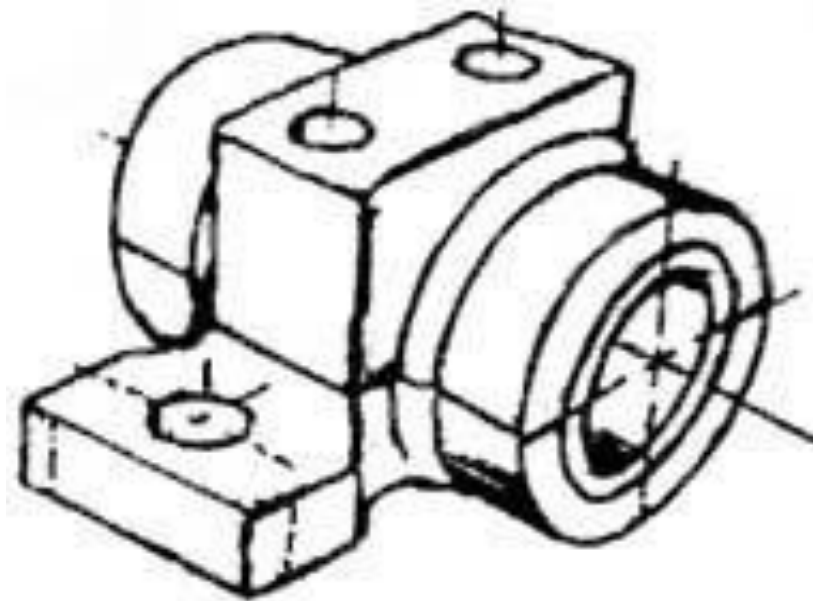

Figure 13 - Pillow-block (Freehand sketch)
- An isometric view of an "assembled" pillow-block bearing system is shown in figure 13. It corresponds closely to what you actually see when viewing the object from a particular angle. We cannot tell what the inside of the part looks like from this view.